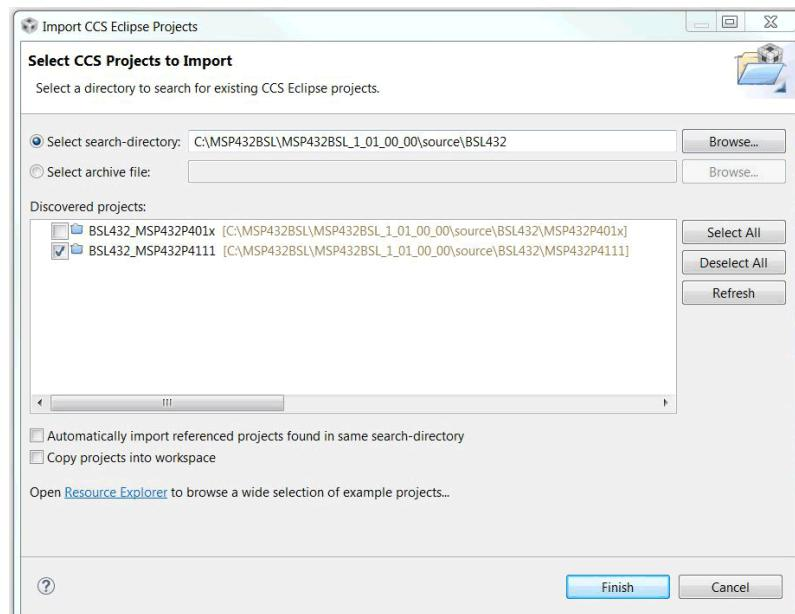

Figure 6. Select CCS Projects to Import
5. Select the project that corresponds to the MCU in use (see Figure 6).